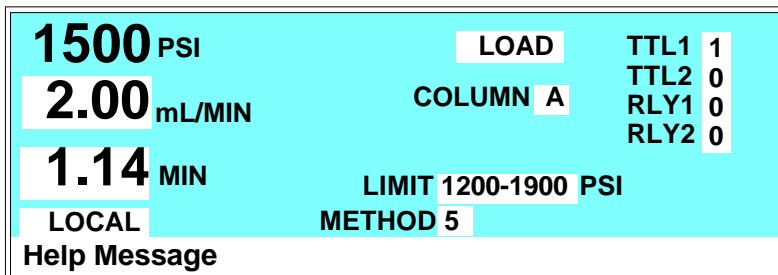

Figure 2-10. Main Screen
1. Go to either the **MAIN** or **DETAIL** screen. The operating mode field displays either **LOCAL** or **REMOTE** (see Figure 2-10).
1. Go to either the **MAIN** or **DETAIL** screen. The control mode field displays either **DIRECT CNTRL** or **METHOD** (see Figure 2-10).
When the pump is powered up, it is in Local mode (see Figure 2-10). In Local mode, the pump accepts operating commands from two sources: